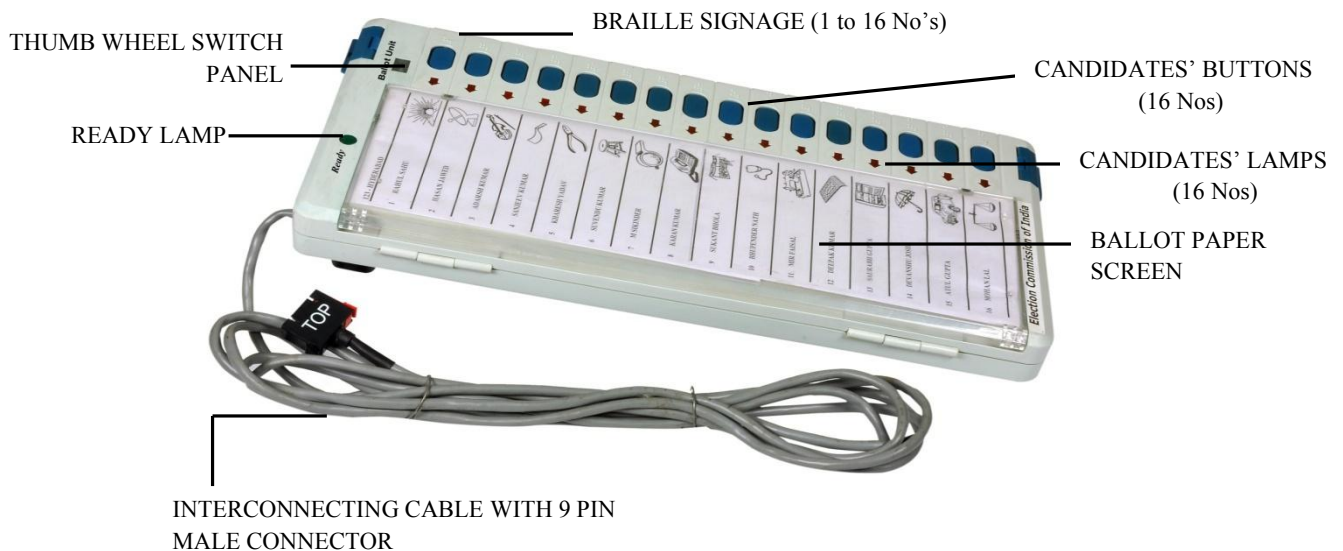

Fig.3 Ballot Unit
10. It consists of a rectangular box. The box, which is as shown in Fig. 3, has -